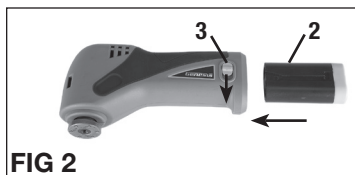

FIG 2
INSTALLING OR REMOVING THE BATTERY PACK (FIG 2)
- To install the battery pack, insert the battery pack (2) into the bottom of the tool all the way until it locks in place with a click, as shown in FIG 2.
- To remove the battery pack, slide the battery locking tab (3) as shown in FIG 2, to release the battery pack, then remove the battery pack.